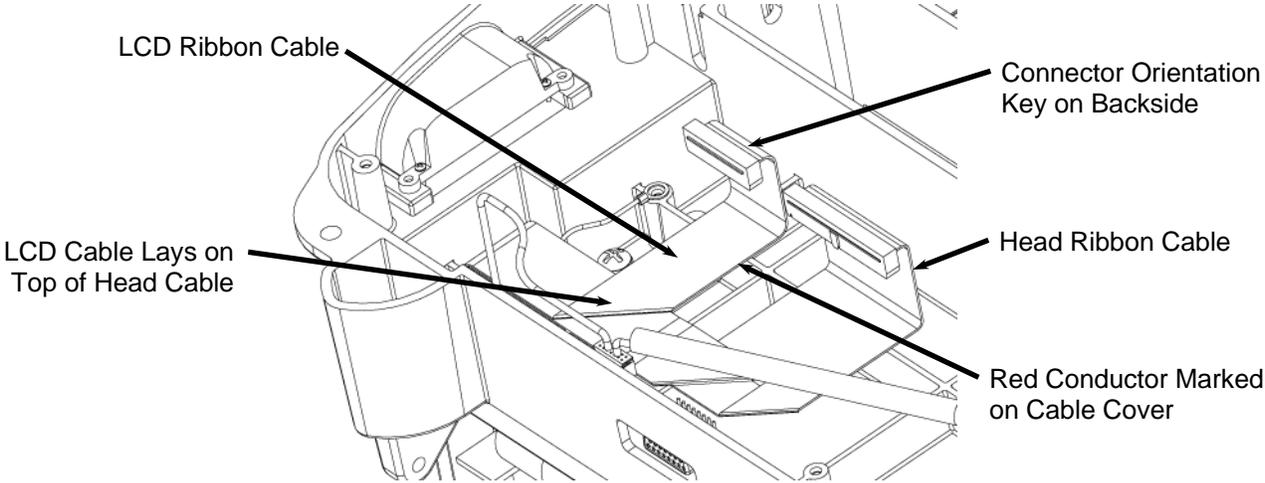
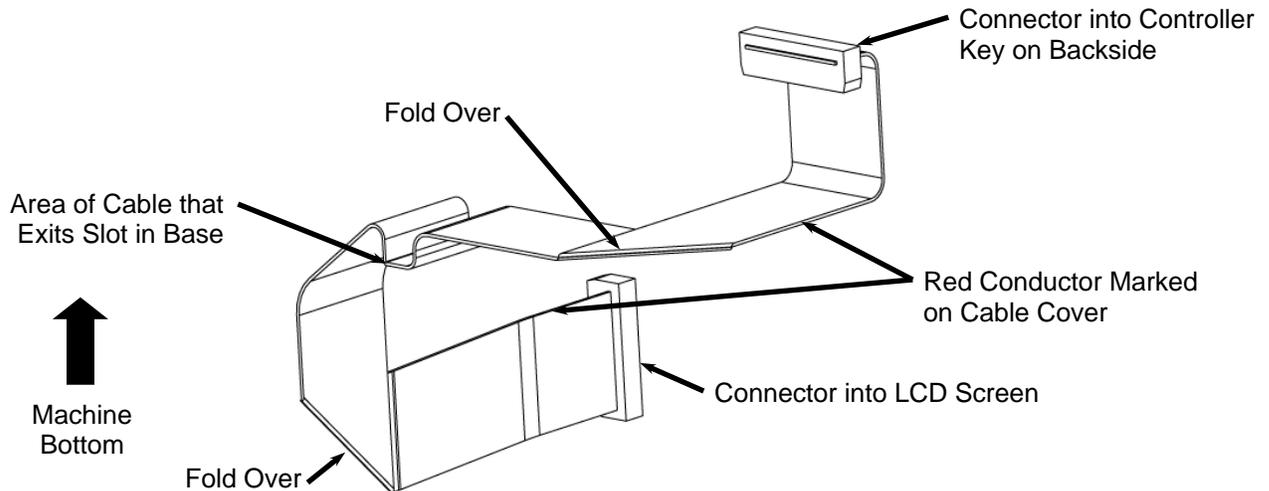

FIGURE 12: POSITION AND ORIENTATION OF THE LCD RIBBON CABLE
FIGURE 13: LCD CABLE ORIENTATION (AS SEEN IN THE MACHINE)
1. **Replace the LCD Cable.** Install the new LCD cable into the machine as shown in Figure 12. Use the old cable as needed to put the fold-overs in the correct position along the cable. Figure 13 shows the shape of the cable as it would appear in the machine (with the bottom of the machine pointing to the top of the page). Make sure that the red conductor is facing the correct direction and that the LCD ribbon cable sits on top of the head ribbon cable.